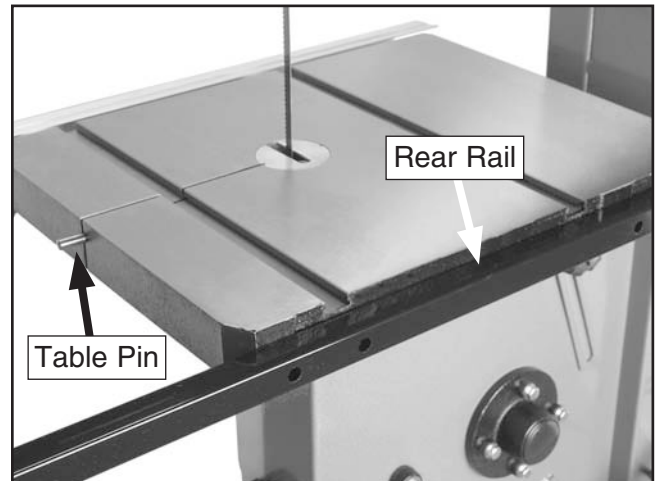

Figure 11. Rear fence rail attached to table.
15. Fasten the rear fence rail to the back of the bandsaw with two M6-1 x 16 cap screws, as shown in **Figure 11**.